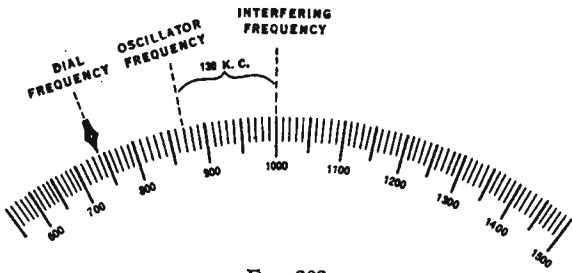

FIG. 262
3. From observation of Figures 262, 263 and 264, it will be seen that the double-spot point of a strong interfering signal is 260 K. C. less than the frequency of the interfering signal. Or, in other words, the interfering frequency that causes double-spot reception is always 260 K. C. more than the dial (pre-selector) frequency.